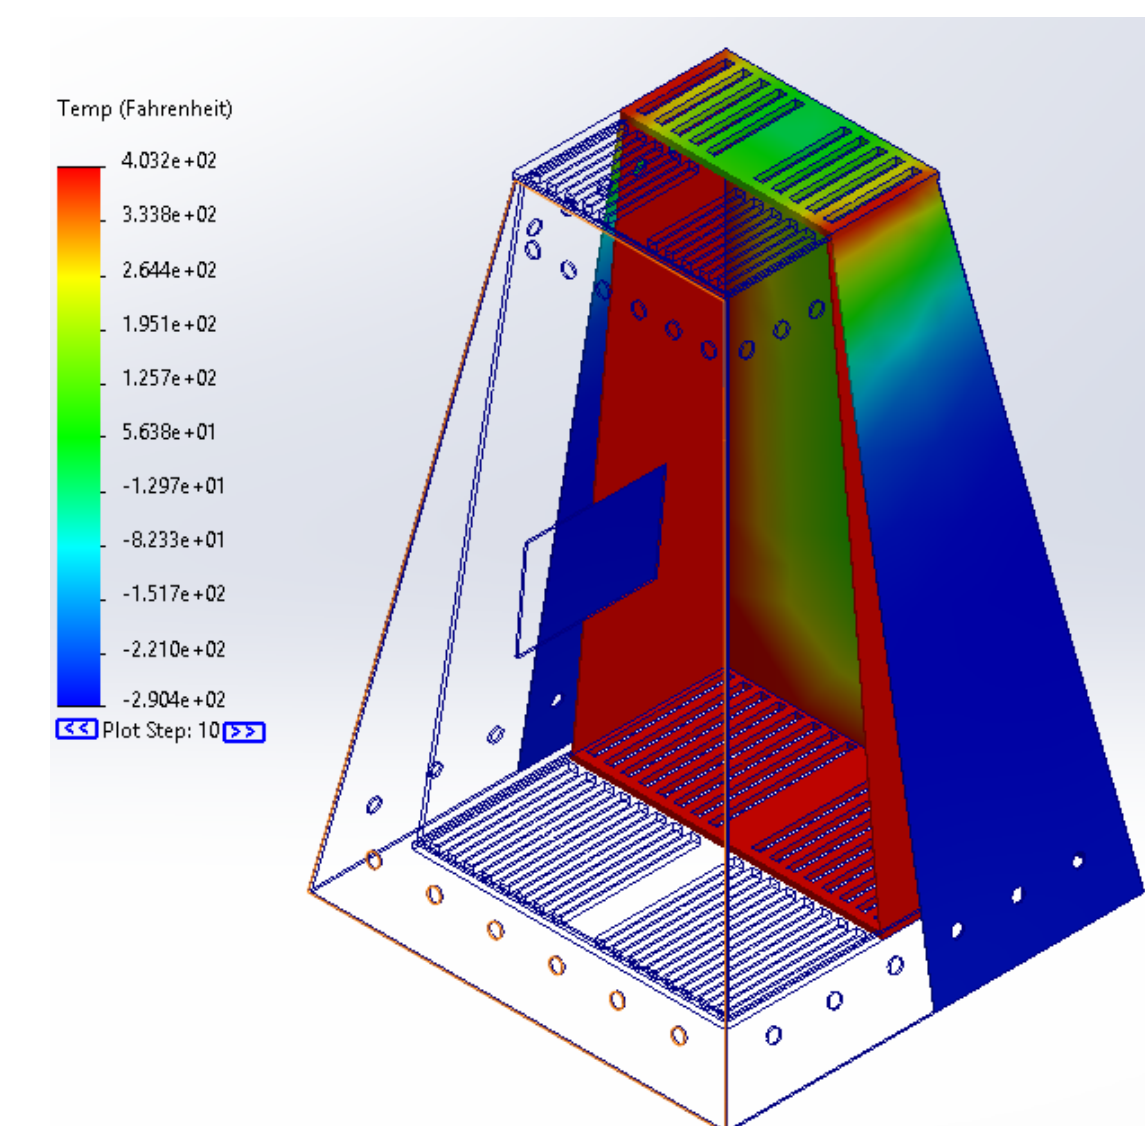

Figure 1. Thermal load on inner shell and outer shell.
- **Figure 1** illustrates a transient thermal power and convection load of 2,500 Btu/s applied at the base and walls of the stove's inner shell.